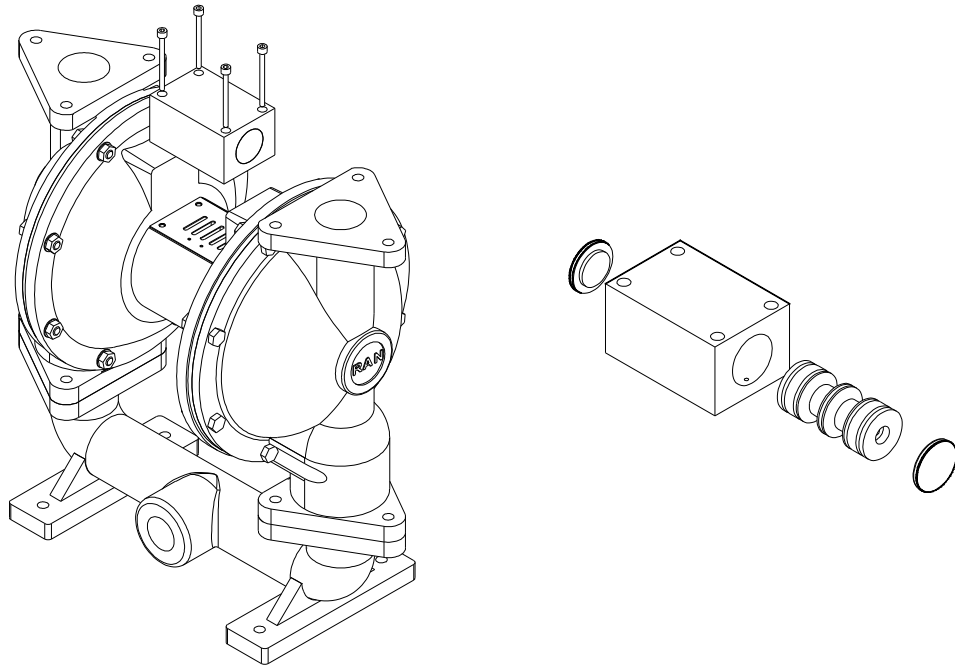

Figure 12- Air valve repair.
2. With a 5 mm allen key, remove the four screws, air valve body, and gasket. See Fig. 12.